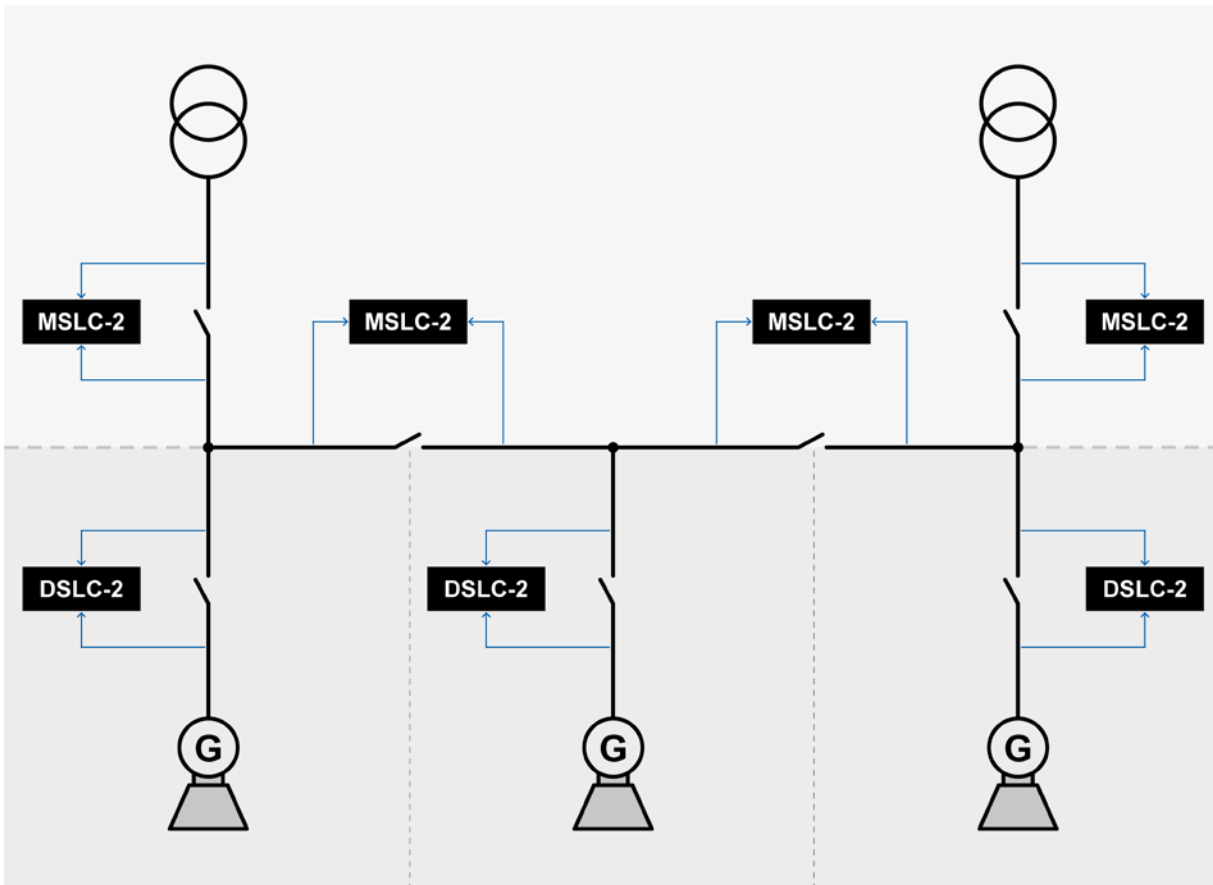

Figure 3-42: Example of an online diagram
1. Draw an online diagram of your application with all generators, breakers and utility inputs. Then arrange the DSLC-2 (and MSLC-2) at the according breaker. Refer to Figure 3-42.